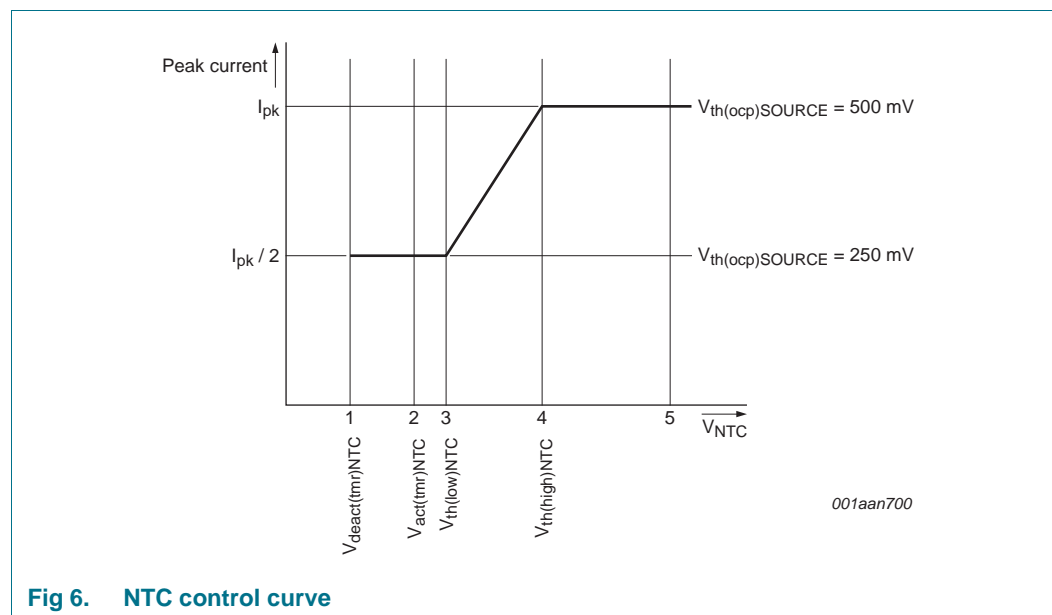

Fig 6. NTC control curve
The NTC pin can be used as a control method for LED thermal protection. Alternatively, the pin can be used as an input to disable/enable light output using a digital signal (PWM regulation). The pin has an internal current source that generates the current of $I_{offset(NTC)}$. An NTC resistor to monitor the LED temperature can be connected directly to the NTC pin. Depending on the resistance value and the corresponding voltage on the NTC pin, the converter reacts as shown in Figure 6.
When the voltage on the NTC pin is higher than $V_{th(high)NTC}$ (see Figure 6 \(4\)), the converter delivers nominal output current. When the voltage is lower than this level, the peak current is gradually reduced until $V_{th(low)NTC}$ is reached (see Figure 6 \(3\)). The peak current is now half the peak current of nominal operation. When $V_{act(tmr)NTC}$ is passed (see Figure 6 \(2\)), a timer starts to run to distinguish between the following situations:
- If the low-level $V_{deact(tmr)NTC}$ is not reached within time $t_{to(deact)NTC}$ (see Figure 6 \(1\)), LED overtemperature is detected. The IC stops switching and attempts to restart from the HV pin voltage. The converter restarts from an NTC protection shutdown when the voltage on the NTC pin exceeds $V_{th(high)NTC}$ (see Figure 6 \(4\)). It is assumed that the reduction in peak current does not result in a lower NTC temperature and LED OTP is activated.
- If the low-level $V_{deact(tmr)NTC}$ is reached within the time $t_{to(deact)NTC}$ (see Figure 6 \(1\)) it is assumed that the pin is pulled down externally. The restart function is not triggered. Instead, the output current is reduced to zero. PWM regulation and consequently LED output current regulation can be implemented this way. The output current rises again when the voltage is higher than $V_{th(low)NTC}$.
The NTC pin can be used to make a soft start function. During switch-on, the level on the NTC pin is low. By connecting a capacitor (in parallel with the NTC resistor), a time constant can be defined. The time constant causes the level on the NTC pin to increase slowly. When passing level $V_{th(low)NTC}$ (see Figure 6 \(3\)), the convertor starts with half of the maximum current. The output current slowly increases to maximum when $V_{th(high)NTC}$ (see Figure 6 \(4\)) is reached.